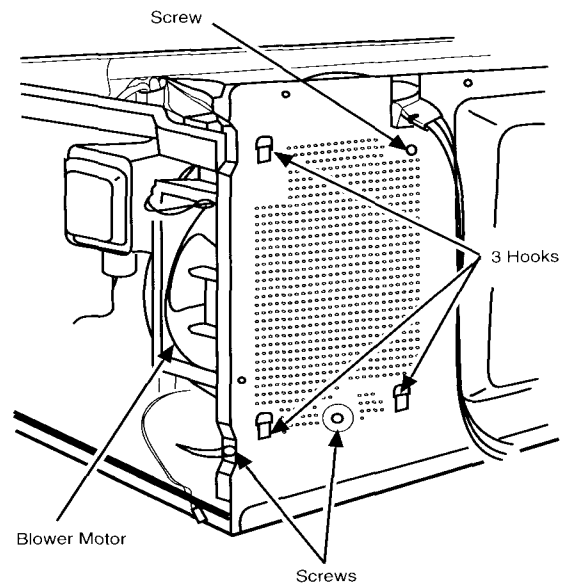

Figure 4
- (1) Remove screw securing the stay.
- (2) Disconnect all lead wires from the blower motor and H.V. capacitor.
- (3) Remove 2 screws securing the blower base and disengage 3 hooks from the rear plate of cavity (Figure 4)
- (4) Remove 1 screw securing the blower motor with the blower base.